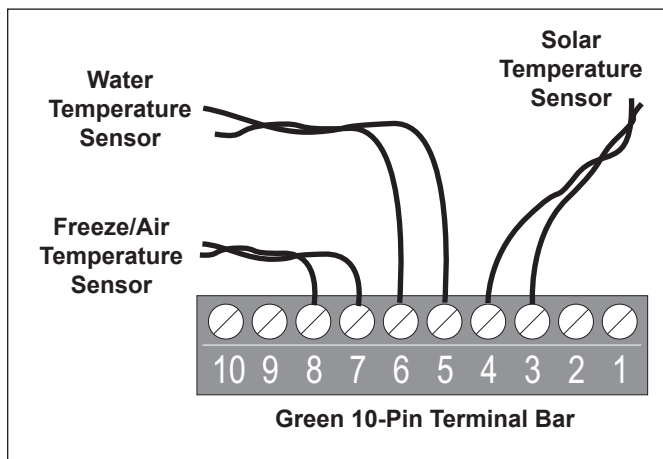

Figure 20. Temperature Sensor Wiring for a Pool/Spa Combination
4. Run the wire to the power center, through the low voltage raceway. Cut off excess wire. Strip the wire jacket back 6", then strip each wire 1/4". Connect sensor wires to the green, 10-pin terminal bar (see Figure 20).